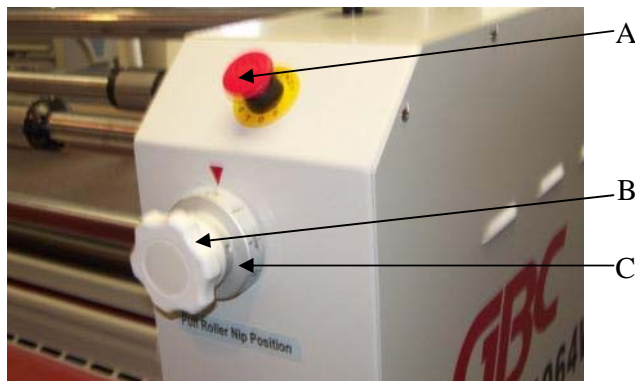

Figure 1
**A. Emergency Stop buttons:** (Fig. 1 - Item A)
**B. Nip Roller Shim Dial:** (Fig. 1-Item B)
**C. Nip Roller Shim Indicator:** (Fig. 1-Item C)